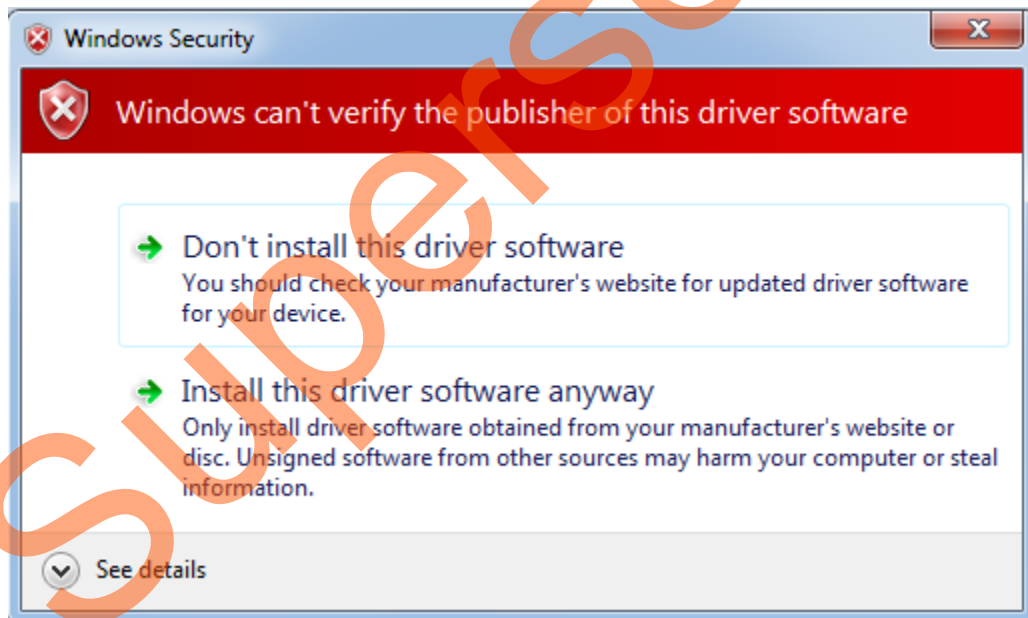

Figure 19 • Windows Security
4. Click **Install this driver software anyway** if the window appears as shown in Figure 19.